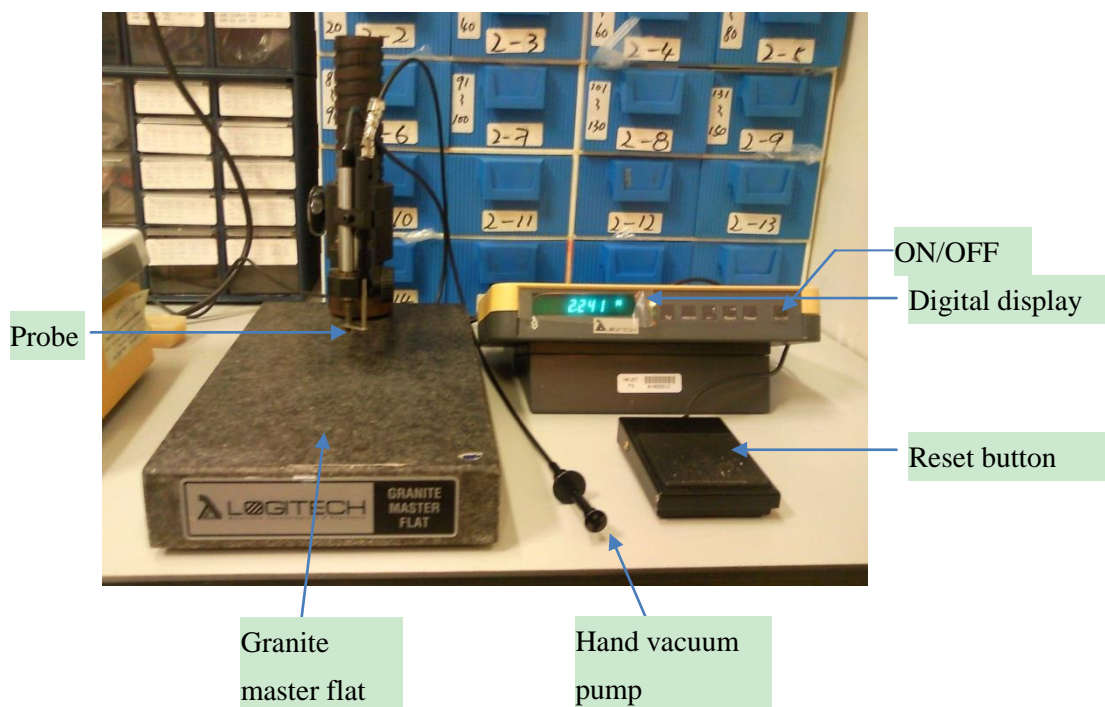

Fig. 7
- 9) Take out the ceramic and measure the thickness or flatness using dial gauge, shown in Fig. 7.